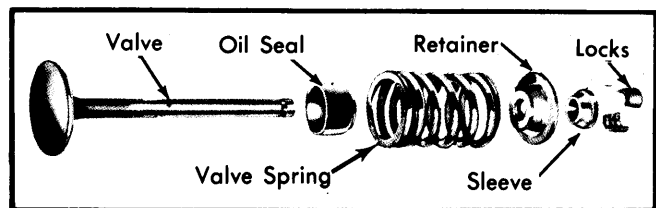

Fig. 2 Exploded View of Valve Assembly
4) Using suitable valve spring compression tool (T65P-6513-A), compress valve and remove retainer locks, sleeve, spring retainer and valve spring. See *Fig. 2*. Remove valve stem seal. Do not remove air pressure as this may allow valve to fall into cylinder if piston has been forced to bottom of cylinder.